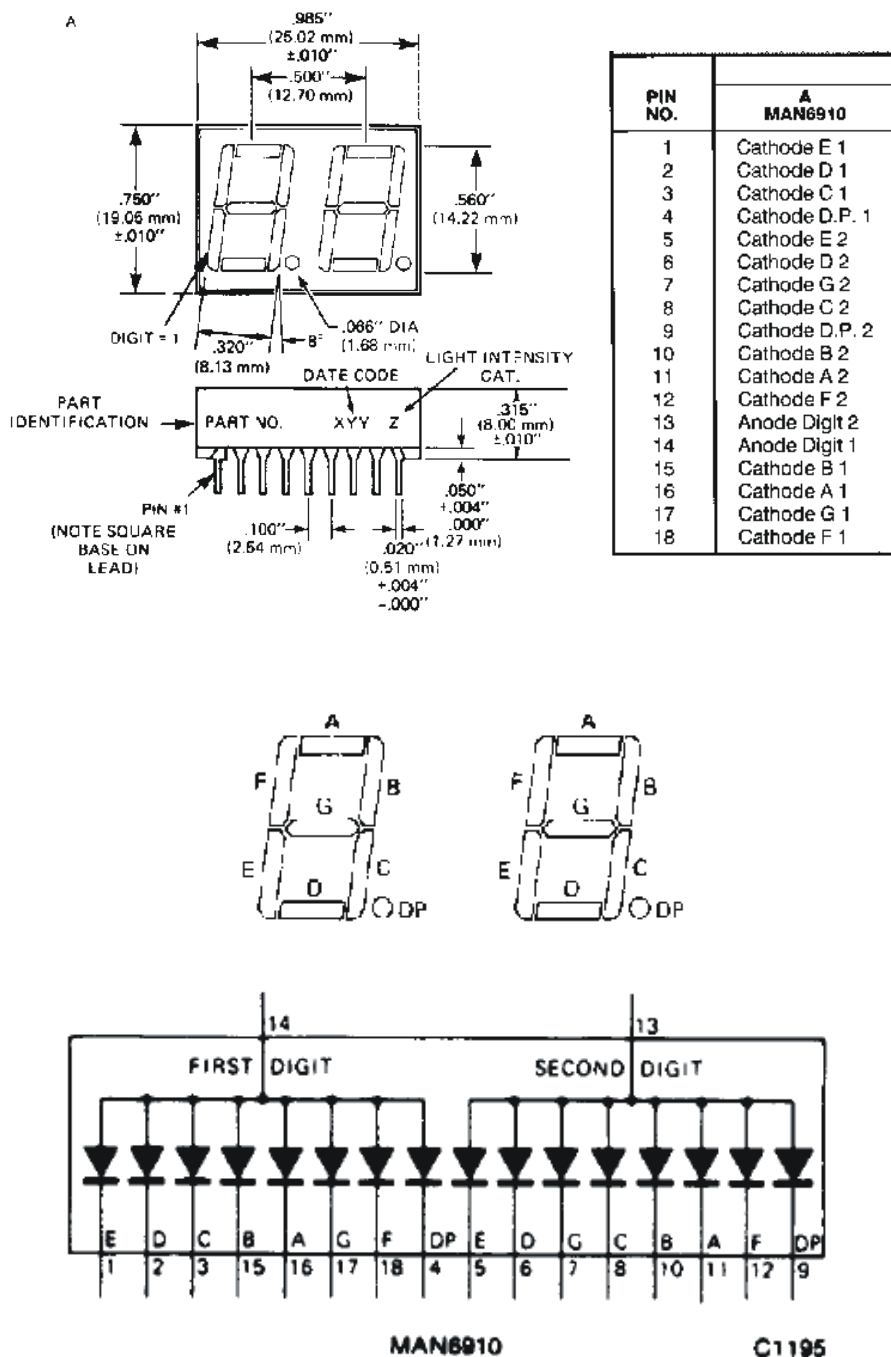

Figure 10.3 MAN6910 Datasheet Information
- (1) Watch the video demonstration on the Lab website of the original hexadecimal counter circuit described in Section 10.2. **Do not build this circuit.** The code and circuit in Section 10.2 is for demonstration only, and it serves as an additional example. Study the program listed in Section 10.2 and observe the functionality in the video, including the effects of holding down buttons.
- (2) Using the figure below as a starting point, draw a complete and detailed wiring diagram required to implement the alternative counter design described in Section 10.3. Figure 10.3 shows useful information from the MAN6910 datasheet. Have your TA check your diagram before you continue. **PLEASE COMPLETE THIS BEFORE COMING TO LAB. NOTE: Your diagram will be very different from the one shown in Figure 10.1.**
- (3) Use an ASCII editor (e.g., Windows Notepad or MS Word - Text Only), or use Microcode Studio in Lab, to create the program necessary to control the alternative design. Name it "counter.bas". Save the file in a folder in your network file space named "counter." **PLEASE COMPLETE THIS BEFORE COMING TO LAB.**
- (4) Follow the procedure in the previous laboratory exercise to compile the program and load it onto a PIC.
- (5) Assemble and fully test your circuit with the programmed PIC. **NOTE: Make sure you use the power supply, and not the function generator, to power the circuit.**